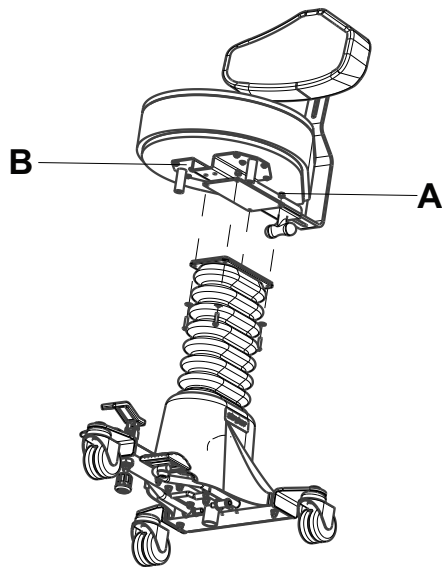

Figure 1 – Seat/base
1. Using a 7/16" combination wrench, remove the four nuts (A) that secure the seat bracket weldment (B) (Figure 1). Remove the seat assembly.
1. Using a 7/16" combination wrench and a 5/32" hex wrench, remove the four nuts (A) that secure the seat bracket weldment (B) (Figure 1). Remove the seat base assembly.